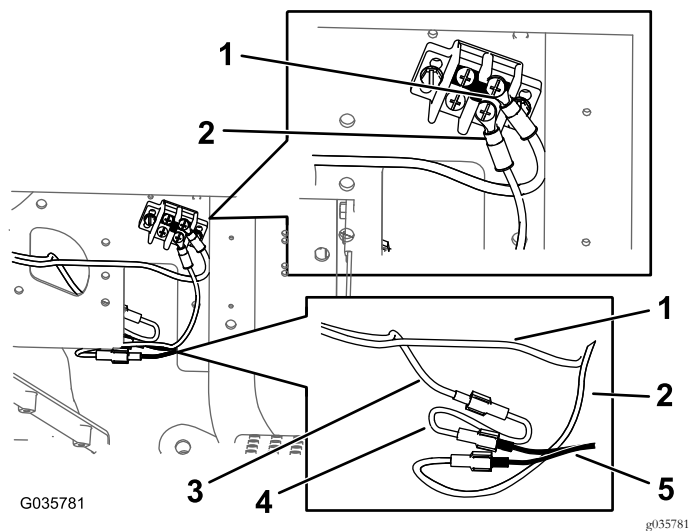

Figure 15
- C. Install the wire harness ring terminal and the ground-adaptor harness to the ground block (Figure 15).
- D. Connect the power-adaptor harness to the wire harness (Figure 15).